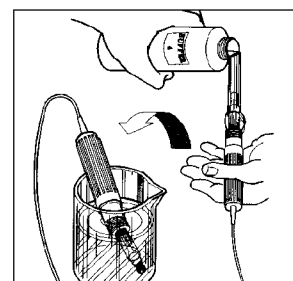

FIGURE 16
4. Rinse sensor in pH 4 solution (low cal), then place sensor into a clean container and pour enough pH 4 buffer solution to cover tip (approximately 1" depth) (see fig. 16).
2. Rinse ORP sensor with 100 mV, low buffer solution, then place sensor in a clean container. Pour enough low buffer solution into the container to cover the sensor's tip (see fig. 16).
7. Rinse ORP sensor with 465 mV, high buffer solution, then place sensor in a clean container. Pour enough high buffer solution into the container to cover the sensor’s tip (see fig. 16).